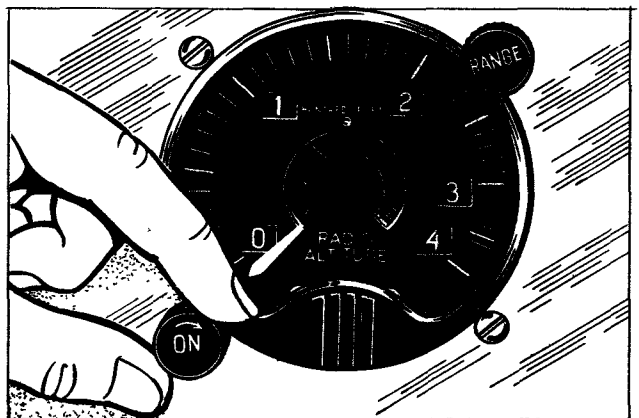
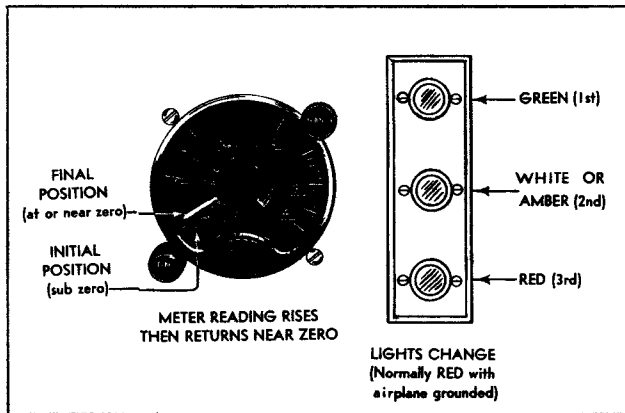

Figure 16—Operation of Power Switch on Altitude Indicator—Starting the Equipment
Figure 17—Altimeter Indications During the Warm-Up Period
(4) Turn the power switch clockwise to the "ON" position (see Figure 16). If an altitude limit indicator is included in the installation, a "green" signal will appear immediately and will be sustained during the warm-up period. After allowing an interval of approximately one minute for the tubes to heat, the pointer of the Altitude Indicator will have moved from its sub-zero stop position to some other position, indicating that the equipment is operating. The altitude limit indicator signals will then function as described in paragraph 5-a(1), this section. See Figure 17.